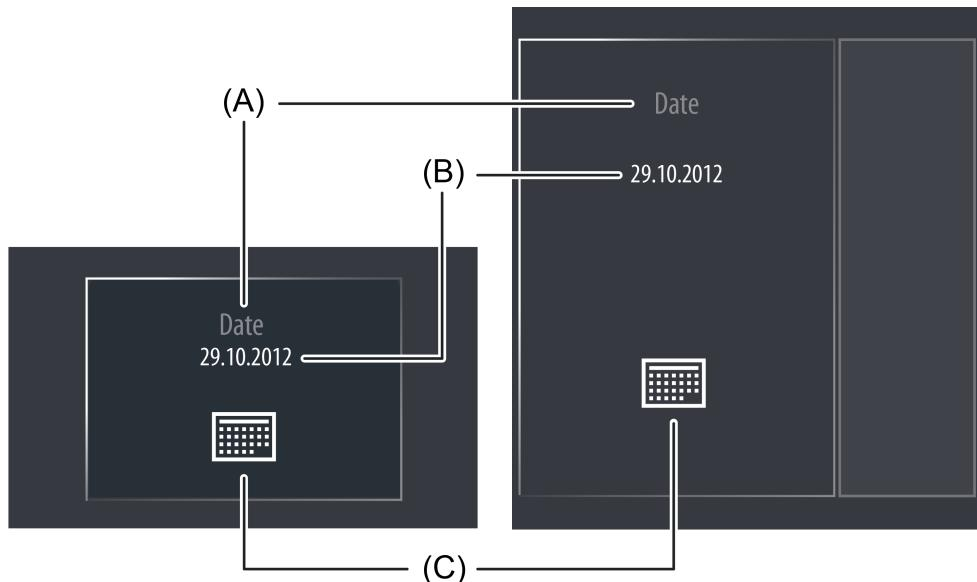

Figure 46: Example of a display element of the function "KNX Date"
The display area contains different display elements (figure 46) that are influenced by parameters. A name can be assigned to each KNX function in the configuration software (A). This text name is centred in the display element for display whereby controllable KNX functions are identified for the user (e.g. "Date"). The date (B) is displayed below this. The parameter "Date display format" defines the format of the display element and makes it possible to adapt the date display to international systems.